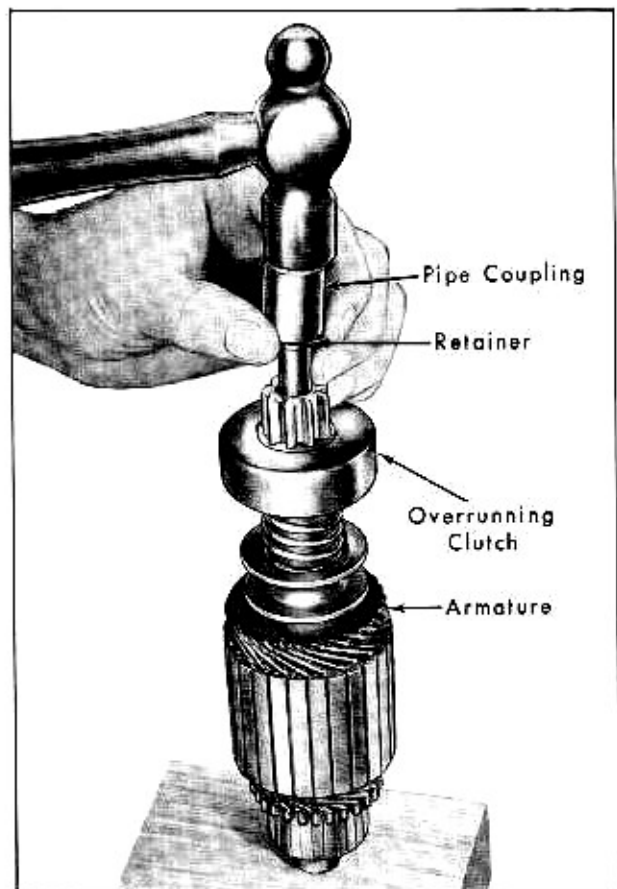

Fig. 11-32 Driving Retainer Off Snap Ring
7. Slide a standard 1/2" pipe coupling or other metal cylinder of suitable size onto shaft, so end of coupling or cylinder butts against edge of retainer, Fig. 11-32. Tap end of coupling with hammer, driving retainer towards armature and off snap ring.
(41) Assembly and Installation of Starter Motor